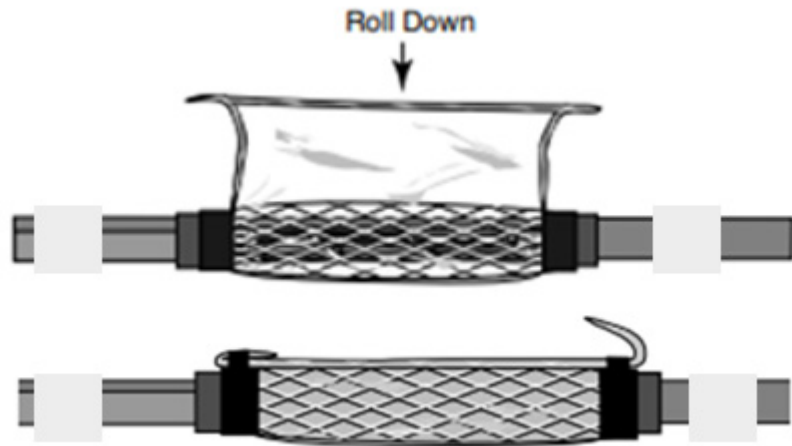

Figure 6
9. Pull out the top corners of the wrapper and roll the wrapper down onto the top of the encapsulated splice bundle. Twist one end of the wrapper tightly against the sealant collar and secure it in place with vinyl tape, leaving 1/2" of the sealant collar exposed. Fold the excess wrapper back over the tape and secure it in place with an additional wrap of vinyl tape. (Figure 6)